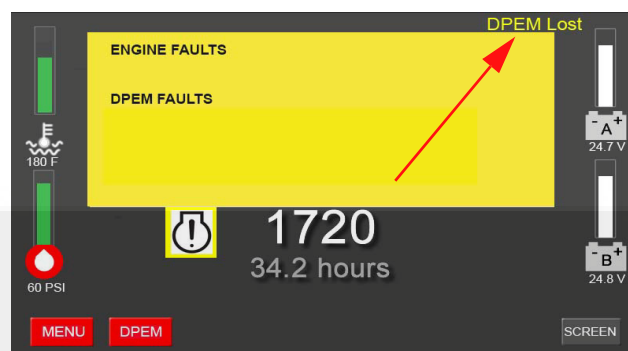

Figure 2-7 DPEM Lost Fault Screen
- **Communications have been lost with the Digital Panel Expansion Module (DPEM).** As shown in Figure 2-7, "DPEM Lost" will appear on the FPDP User Interface Screen if communications between the FPDP and DPEM are compromised.